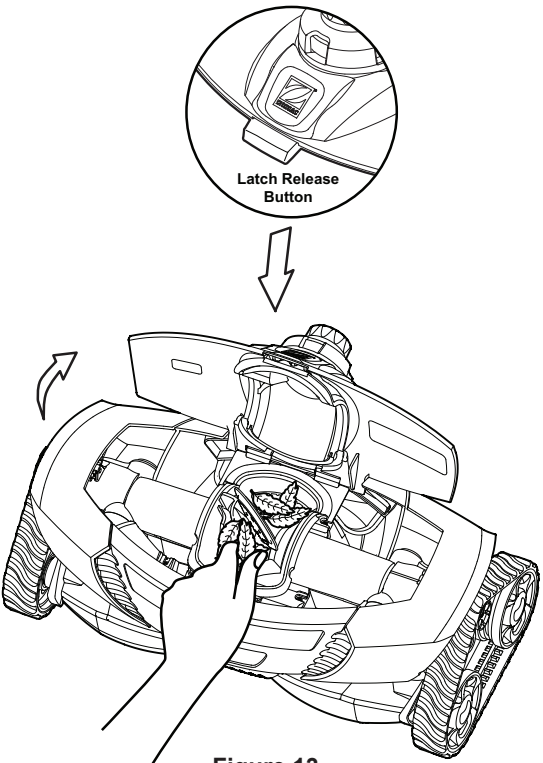

Figure 13
1. Push the latch release button on the top of the cleaner (Figure 13).